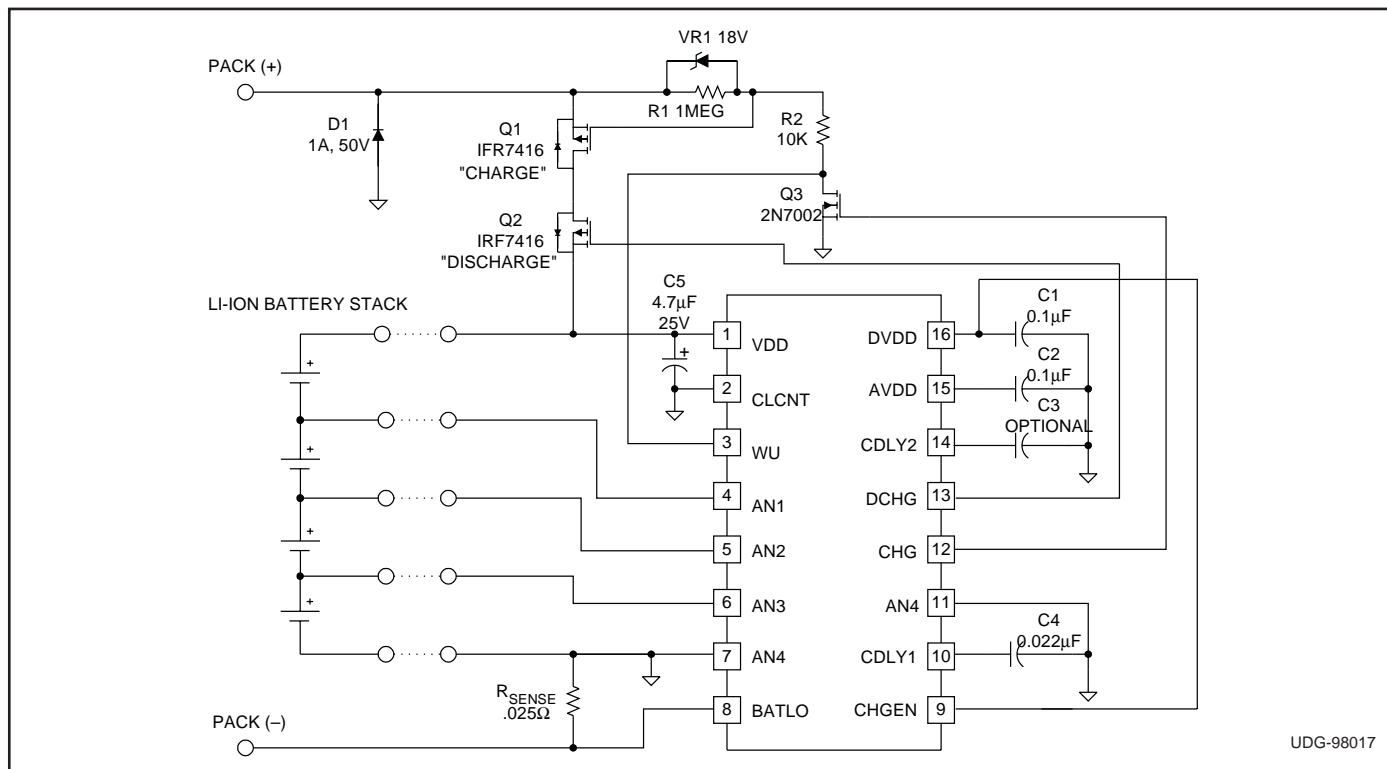

Figure 2. Four cell protector with optional components to protect the charge FET from excessive gate-source transients.
The use of a small N-channel level shifter (Q3 in the application diagrams) allows the IC to interface with the high-side Charge FET (Q1), even in the presence of a runaway charger. Only the drain-source voltage rating of the charge FET limits the charge voltage that the protection circuit can withstand. The Wakeup (WU) pin is designed to handle input voltages greater than VDD, as long as the current is limited. In the examples shown, the Charge FET's gate-source resistor (R1) provides this current limiting. Note that in Figure 2, a resistor and zener (R2 and VR1) have been added to protect Q1 against any possibility of a voltage transient exceeding its maximum gate-source rating.